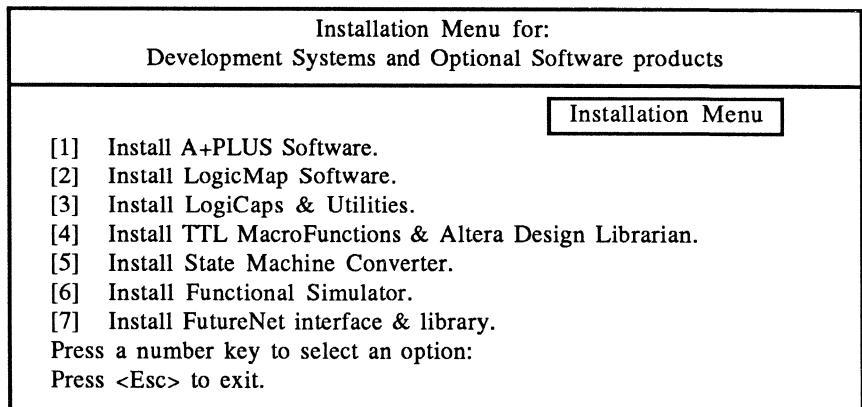

Figure 2-2. Installation Menu
5. Now, the Installation Menu is displayed. See Figure 2-2.